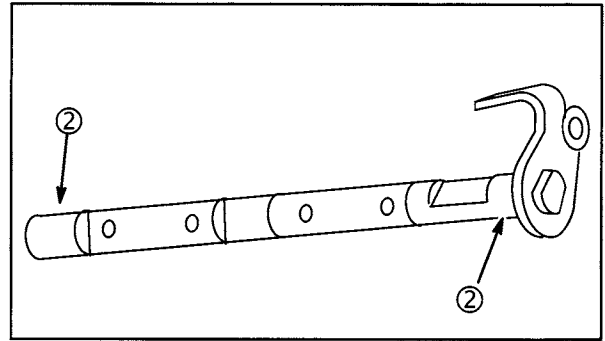

Fig. 116
2. Inspect throttle shaft and choke shaft for wear on the shaft bore surfaces (2), Fig. 116.